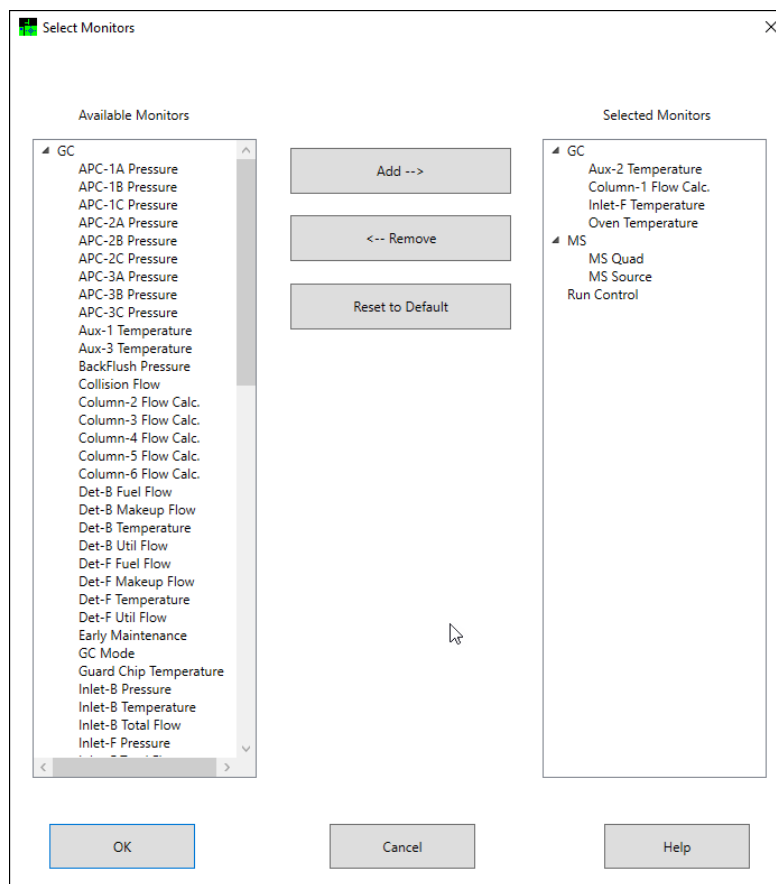

Figure 25 Select monitors dialog
- 1 In **Instrument Control** view, select **Edit Monitors** from the **Instrument** menu to display the **Select Monitors** dialog. (See Figure 25.)